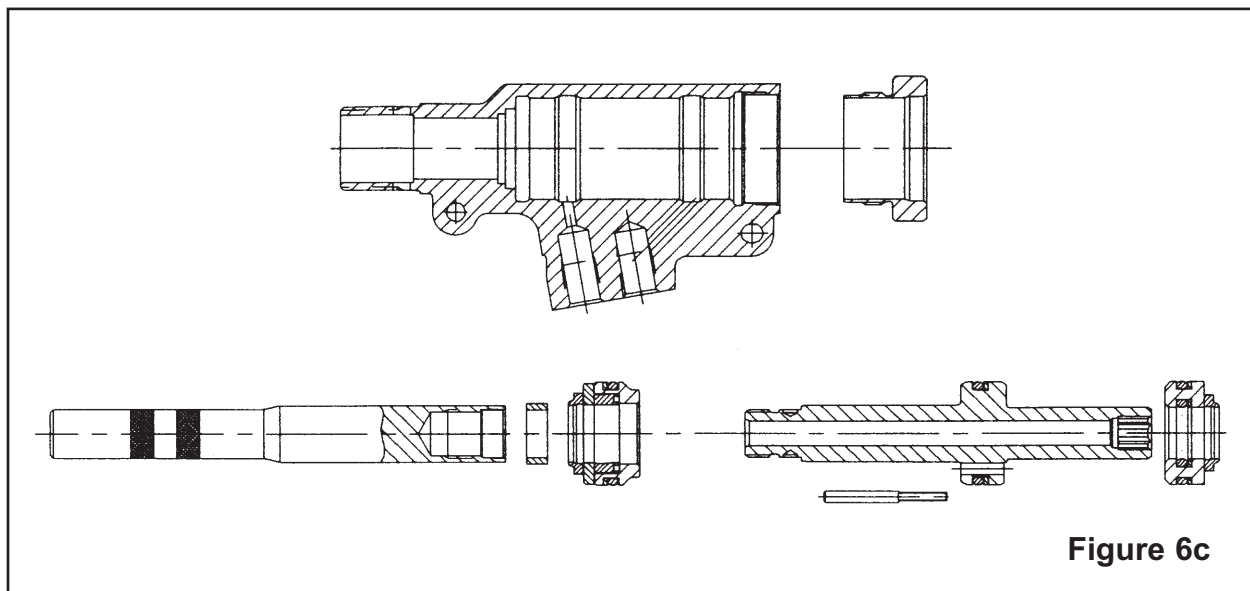

Figure 6c
5. See *FIGURE 6c*. Remove piston assembly tool and spacer from piston. Remove rear gland assembly and dump valve. Remove front gland assembly. Remove piston insertion tool from piston.